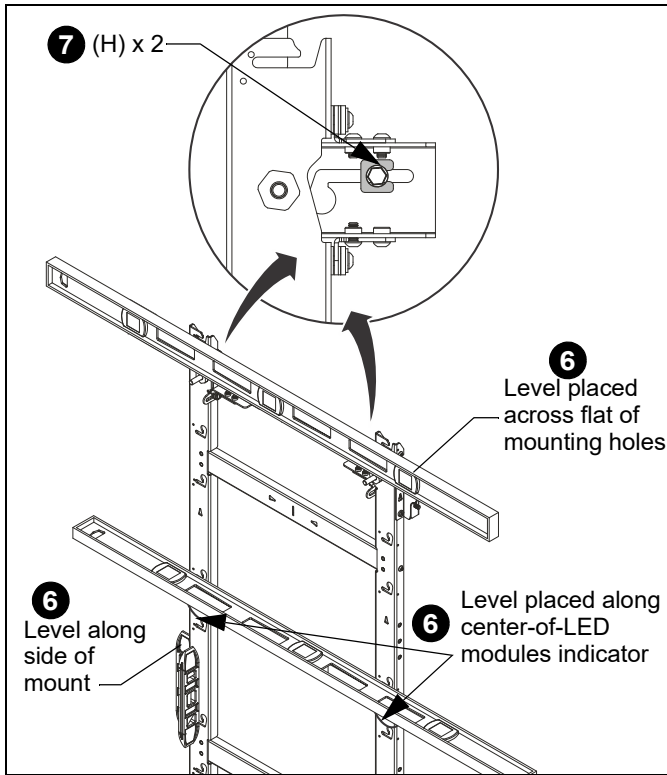

Figure 7
6. Lay levels across flat of the mounting holes and center line indicators, and vertically along side of mount to ensure wall mount is square and level. (See Figure 7)
7. Slide installation washers (H) behind head of fasteners and tighten mount in place. (See Figure 7)